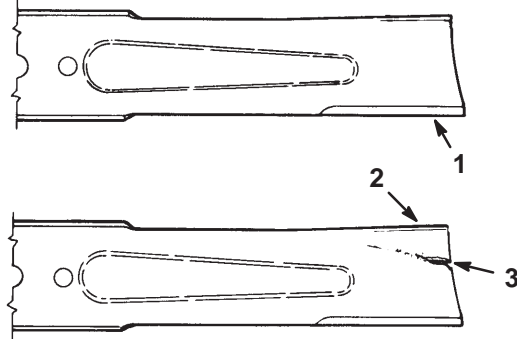

Figure 31
2. Inspect the cutting edges (Fig. 31). If the edges are not sharp or have nicks, remove the blades and sharpen them; refer to Sharpening the Blades on page 29.
3. Inspect the blades, especially the curved area (Fig. 31). If you notice any damage, wear, or a slot forming in this area (Fig. 31), immediately install a new blade.